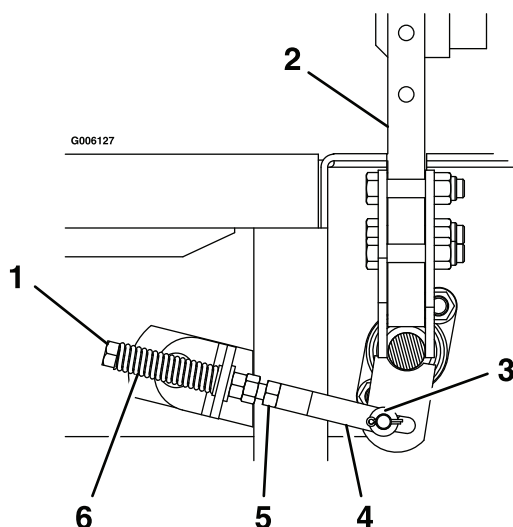

Figure 26
3. Begin with either the left or right motion control lever. Move lever to the neutral position and pull lever back until the clevis pin (on arm below pivot shaft) contacts the end of the slot (just beginning to put pressure on spring). (Figure 26).